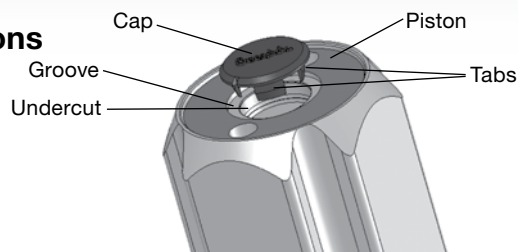

Fig. 7
2. Press the new **cap** into the **groove** so that the **tabs** are compressed within the **undercut** of the **piston**. See Fig. 7.